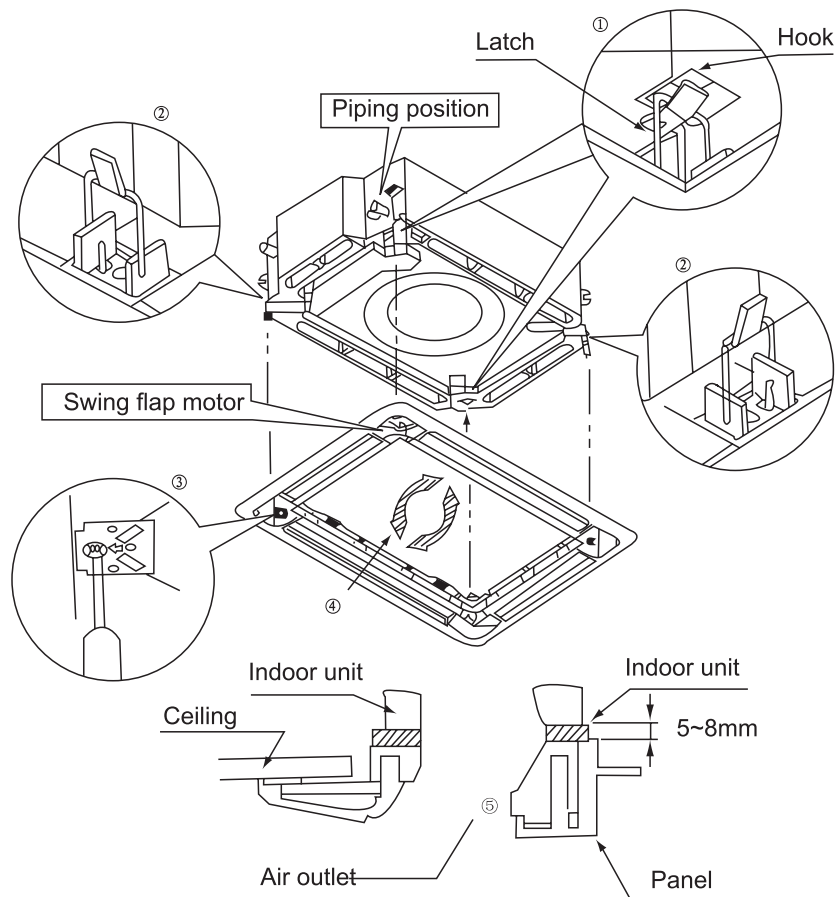

Figure 3-1-45
- (2). Place the panel at the unit, and latch the hooks beside and opposite the swing flap motor.
- (3). Latch other two hooks.
- (4). Tighten four hexagonal screws under the latches about 15mm.
- (5). Adjust the panel along the direction indicated by the arrow as shown in Figure 3-1-45.
- (6). Tighten the screws until the thickness of the sealing material between the panel and the indoor unit reduces to 5-8cm.